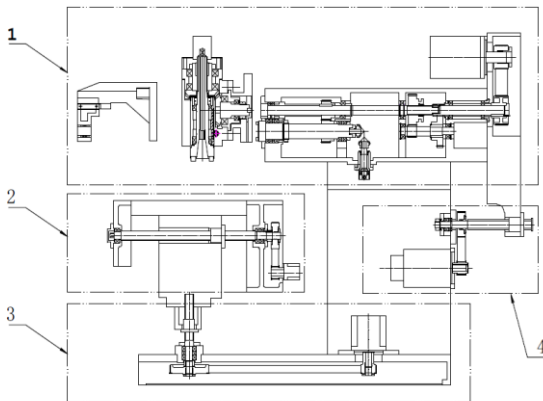
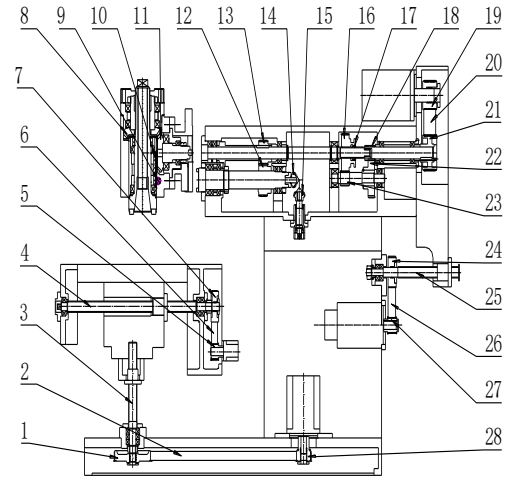

Fig. 10: Machine transmission system diagram
Fig. 11: Machine transmission parts diagram
1) Spindle transmission system (see Fig. 10 & Fig. 11)
The spindle transmission system is composed of ram gearbox and milling head, for detail, see block chart 4 in Fig. 10. For specific driving parts, see Fig. 11. And the transmission principle is as follows:
2)X-axis drive (see Fig 10, Fig. 11)
X-axis drive is shown in block chart 2 in Fig. 10; for transmission parts, see Fig. 11, and the transmission principle is as follows:
3)Y- axis drive (see Fig 10, Fig. 11)
Y-axis drive is shown in block chart 4 in Fig. 10; for transmission parts, see Fig. 11, and the transmission principle is as follows:
4)Z-axis drive (see Fig 10, Fig. 11)
Z-axis drive is shown in block chart 3 in Fig. 10; for transmission parts, see Fig. 11, and the transmission principle is as follows:
Gear and Transmission Parts List(Fig.11)